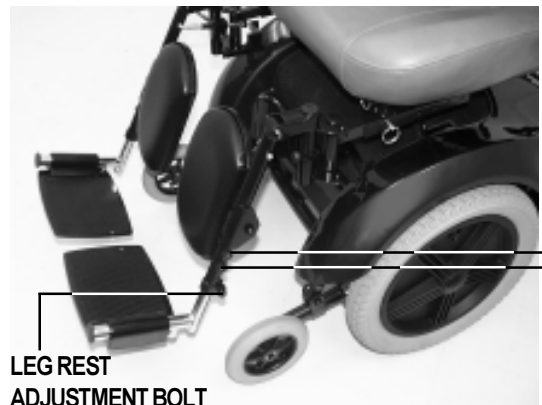

Figure 20. Elevating Leg Rests
1. Remove the two leg rest adjustment screws from the side of each leg rest extension. See figure 20.